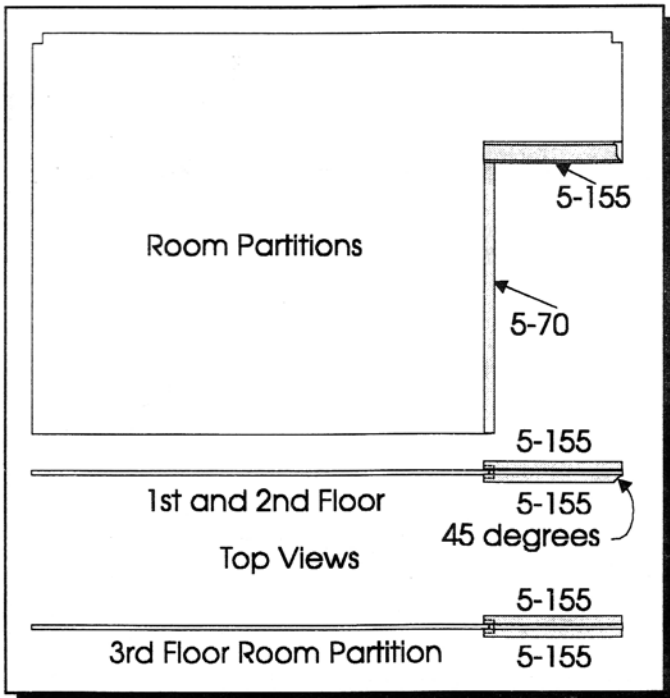

Figure 22
2. Glue 5-155 to the tops of both sides of the 1st, 2nd and 3rd Floor Room Partition doorways and 5-70 to the vertical edges of the doorways. See Figure 22. Notice that the 5-155 on the 3rd Floor Room Partition is square on the front edge.